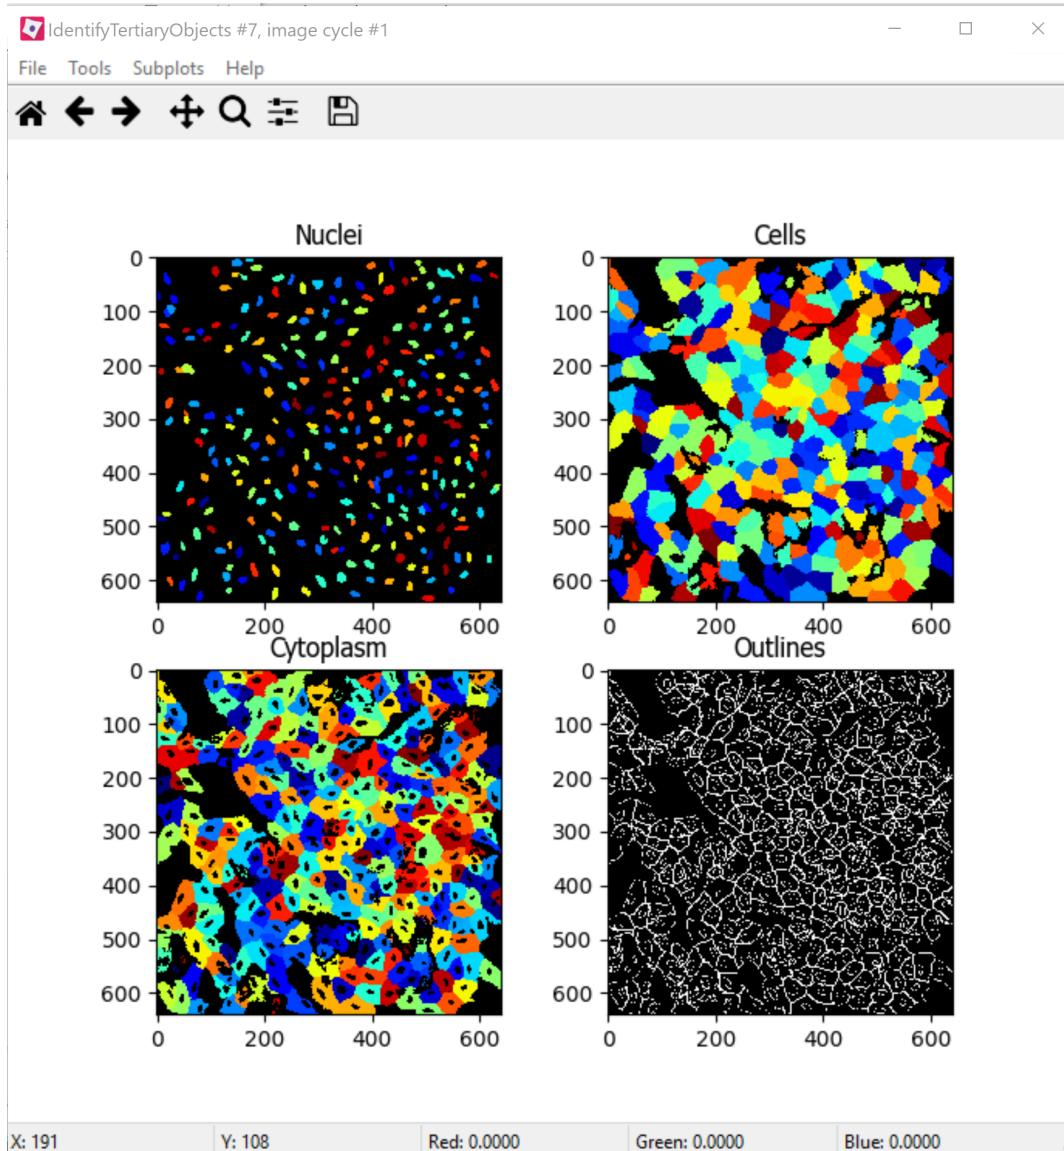

Figure 5: Example module display window for **IdentifyTertiaryObjects**
- Click the  button to execute the module, and preview the results of tertiary object identification (Fig. 5).